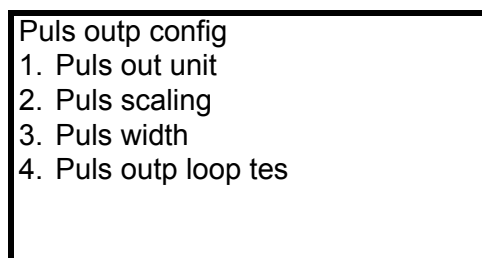
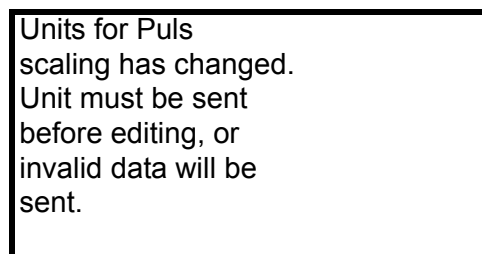

Figure 22 Puls outp config menu
Figure 25 Demand for data transfer
1. Select “2. Puls scaling” from the Puls outp confi menu. (Figure 22) If the pulse weight has been changed prior to this step but the change has not been transmitted to the converter, a message demanding the transfer will appear on the display. (Figure 25) Press F4 (OK) here.
1. Select “3. Puls width” from the Puls outp config menu. (Figure 22)